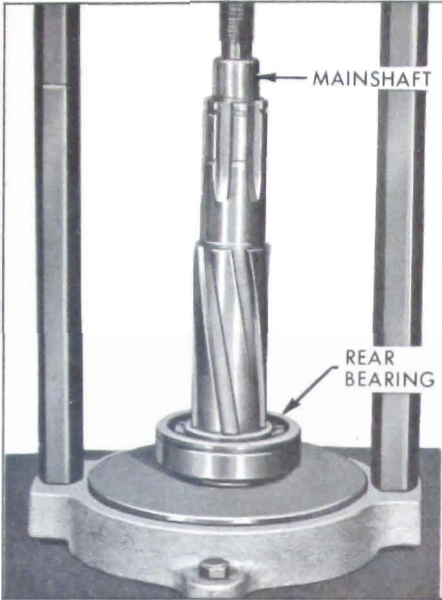

Figure 4-92—Installing Rear Bearing
1. Using J-8853, press on the rear bearing with the snap ring groove toward the front of the transmission. See Figure 4-92. Firmly seat bearing against the shoulder on the mainshaft.